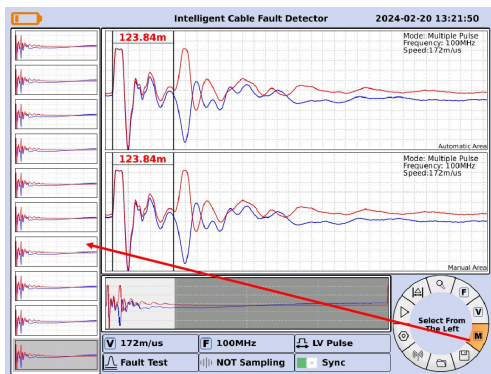

Figure 3.11 Historical Data Selection Interface
As shown in Figure 3.11, rotate the ⑪ "Optoelectronic Rotary" to move the focus to a historical data entry, and press the button to select it.